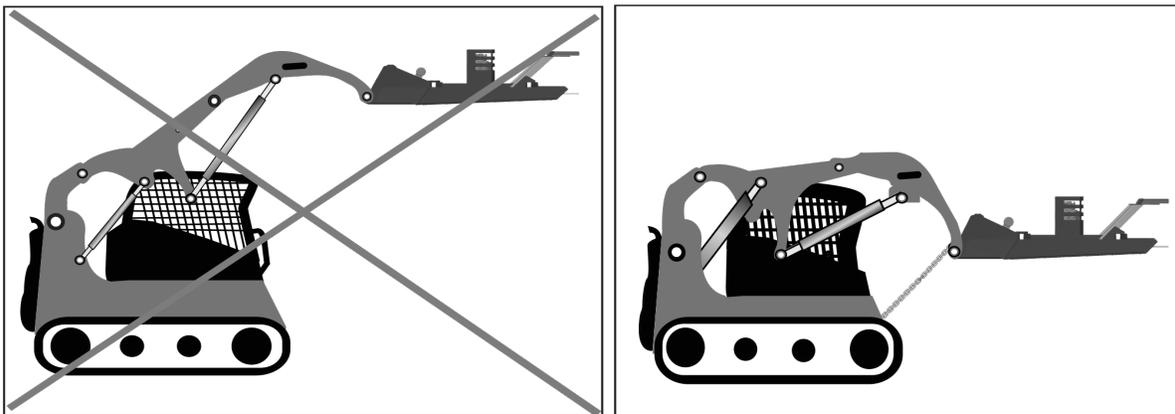

FIGURE 3.2C - SAFETY CHAIN
7. Install the safety chain so the cutter deck is below eye level of the operator while seated in the operator's seat. You should not be able to see the blades while seated in the operator's seat. See figure 3.2c below.